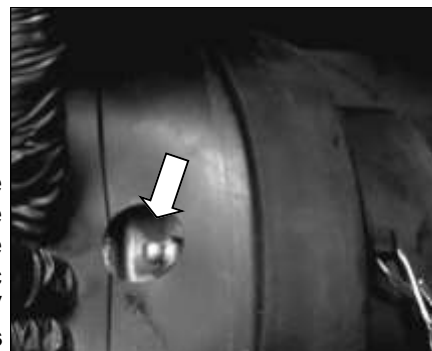

Fig. 51
- There is a hole in the large rubber cover that encloses the CV joint. Turn the shaft inside the safety covers until the grease fitting in the CV housing becomes visible. The horizontal fitting shown (Fig. 51) greases the sliding disc assembly inside the CV housing. Apply **4 - 8 pumps** of multi-purpose grease.